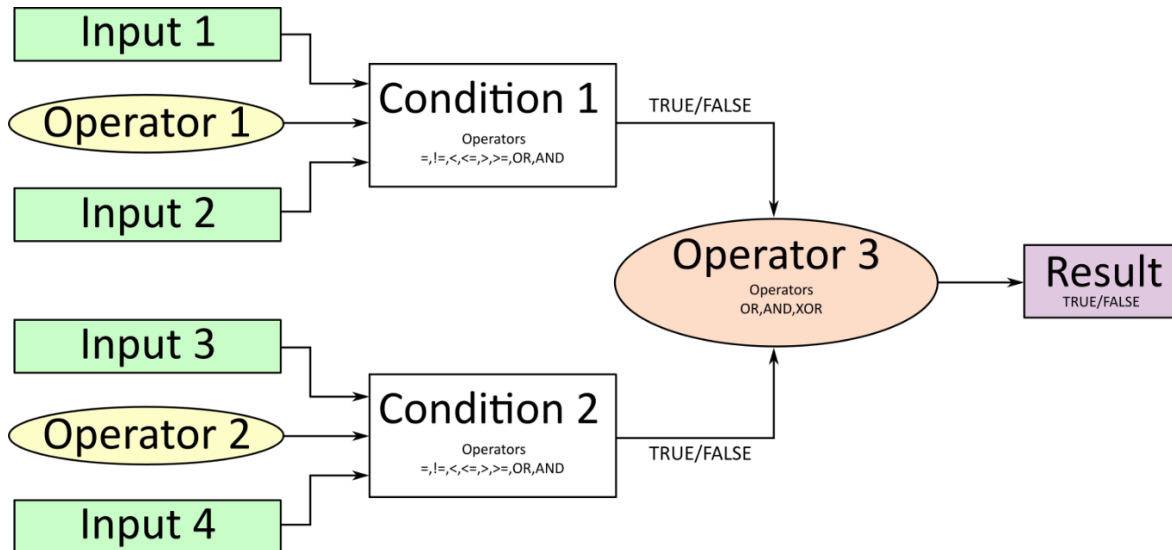

Figure 8. Conditional Block Diagram
The Conditional Block compares up to four different input sources with different logical or relational operators. The result of each block can therefore only be true (1) or false (0). Figure 8 demonstrates the connections between all parameters.